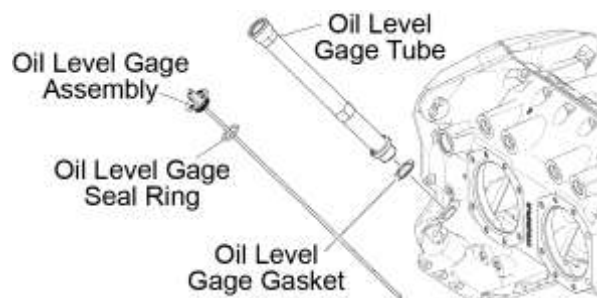

Figure 3
- B. Carefully turn the oil level gage tube (Figure 3) to remove the oil level gage assembly and tube as a unit (with the dipstick and O-ring) from the engine. Discard the oil level gage gasket and oil level gage plug ring.
- Install a new oil level gage gasket on the threads of the top of the oil level gage tube (Figure 3).
- Install a new oil level gauge plug ring on the threads of the oil level gage assembly (Figure 3).